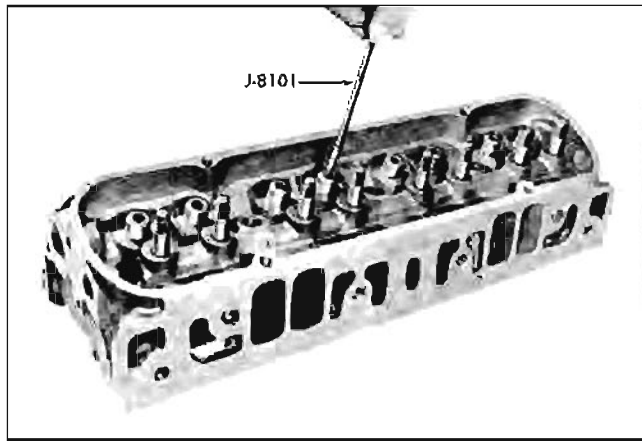

Fig. 6-33 Cleaning Valve Guide
4. Clean valve guides thoroughly using Valve Guide Cleaner J-8101 (Fig. 6-33).